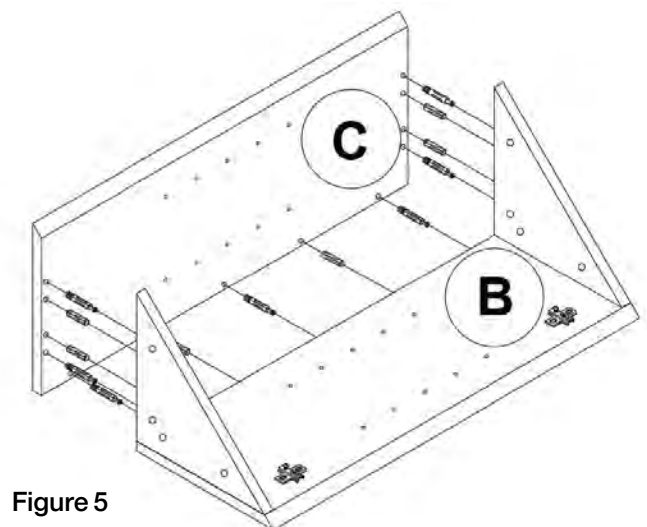

Figure 5
6. Install side panel (C) onto the assembled panels using the same methods above. (Figure 5)